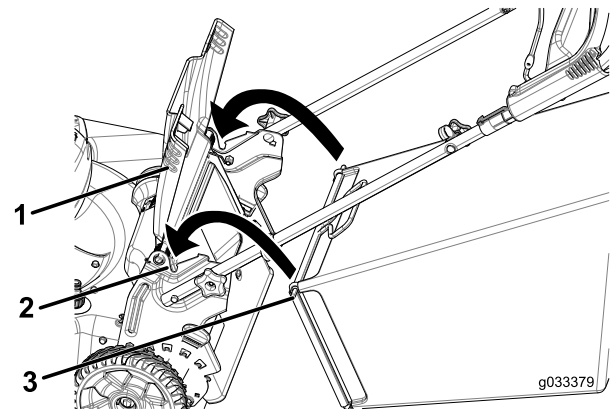

Figure 26
1. Raise and hold up the rear deflector (Figure 26).
2. Install the grass bag, ensuring that the pins on the bag rest in the notches in the handle brackets (Figure 26).